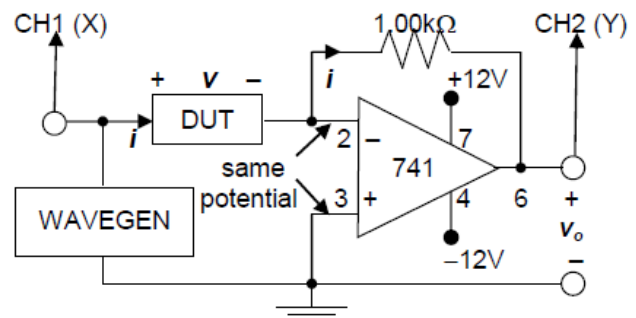

Fig.2.2 Circuit for displaying i - v characteristic
The circuit shown in **Fig. 2.2** will be used to display the i - v characteristic curve of the Device Under Test (DUT) on a DSO used in the **x - y mode**. This circuit generates a voltage $v_o = -iR$, where $R = 1.00\text{k-ohm}$ and i is the current flowing through the DUT in response to the voltage v applied across DUT from the WAVEGEN.
1. Set the **WAVEGEN** to generate 1-kHz sine wave having Peak-to-Peak value = **1V** and Offset = **0V**. With a 1.00k-Ohm resistor as the **DUT**, make the connections to the **DSO** as shown in **Fig. 2.2**.